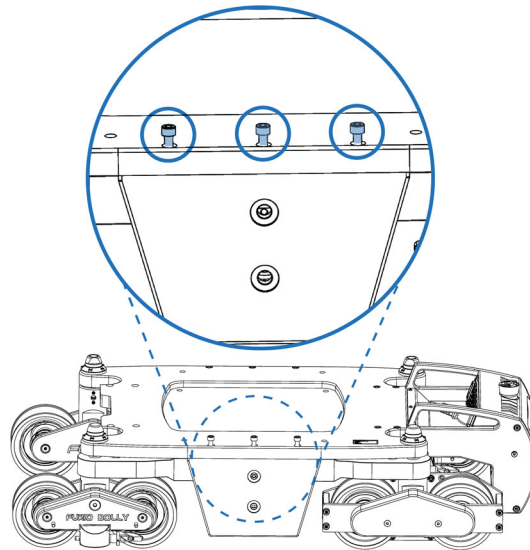

Figure 12 - Three Screws that Secure the Side Plate
2. Using a 5 mm hexagonal wrench, remove the three screws securing the side cover plate as shown in **Figure 12**.